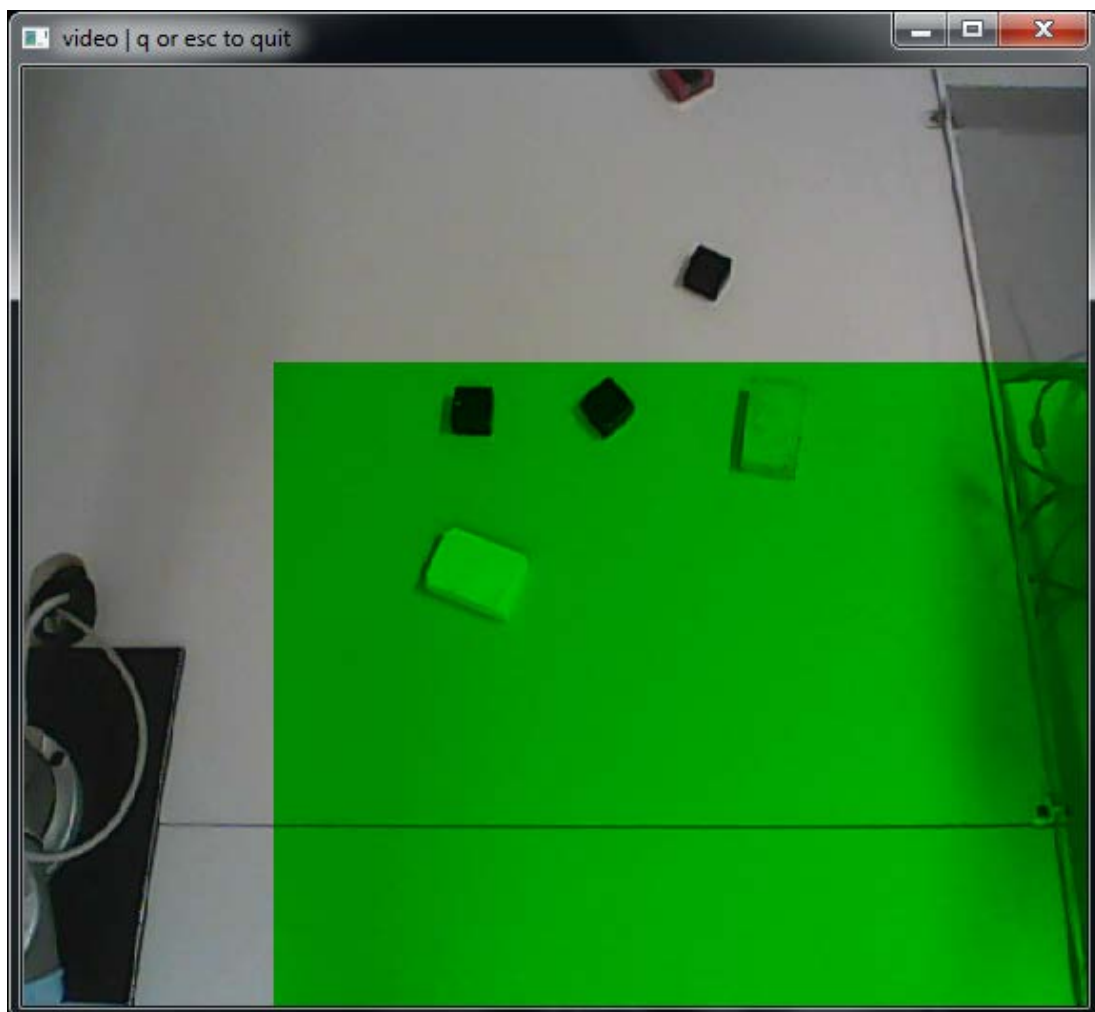

Figure 28 The output from the camera using the sample code provided
20. A new window will open like that in Figure 28. The display shows the robot cell with the top half of the image has been modified to show bright colours. This is a result of the sample code at the entry point. This code demonstrates how to extract and modify pixel values from the display image.